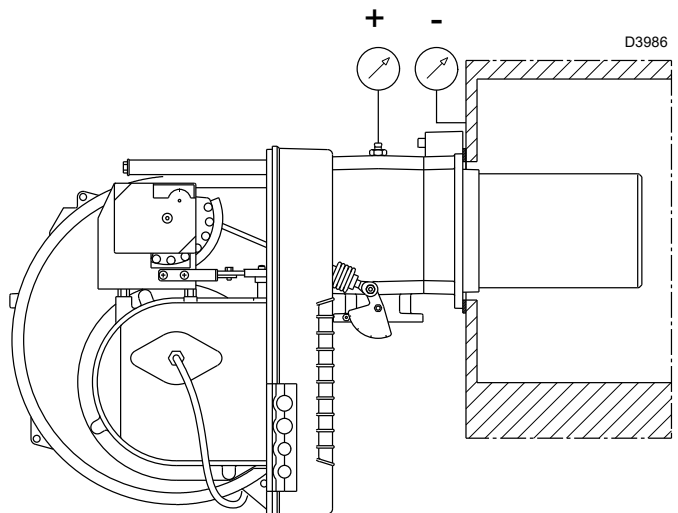

Fig. 27
- Fit a pressure gauge (Fig. 27) to the gas pressure test point on the pipe coupling. The pressure gauge readings are used to calculate MAX burner output using Tab. H on page 30.
The arrival of gas to the pipe coupling is shown by the pressure gauge (Fig. 27 on page 22).
A rough indication can be obtained from Tab. H on page 30; just read the gas pressure on the pressure gauge of Fig. 27 on page 22 and follow the instructions at page 18.